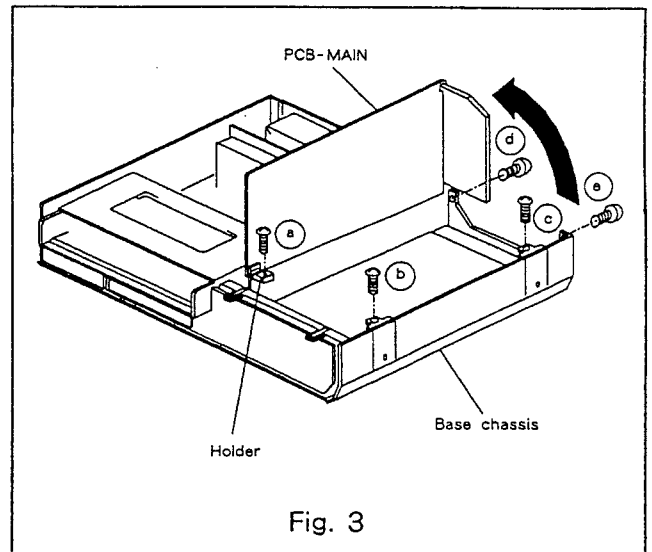

Fig. 3
- B. Remove the five screws (Ⓐ~Ⓔ), as shown in Fig. 3.